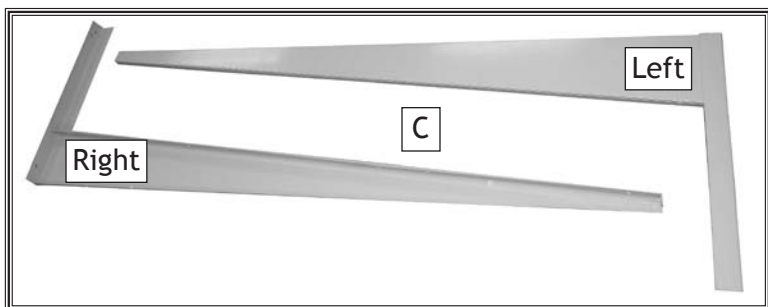
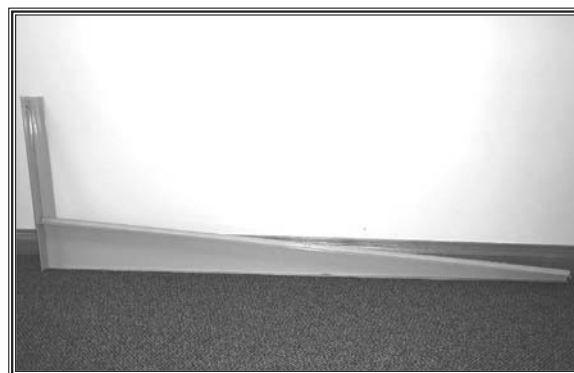

Figure 6. Rack legs.
Figure 10. Right rack leg in position for assembly.
1. Identify the left and right rack legs (see **Figure 6** on the previous page). Using a wall or an assistant for support, arrange the right leg so that it's lying flat on its back side, with the bottom foot pointing straight up, as shown in **Figure 10**.